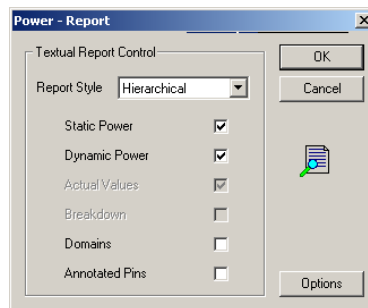

Figure 1-9. Report Dialog Box
- From the Tools menu, select Report Power (Figure 1-9)